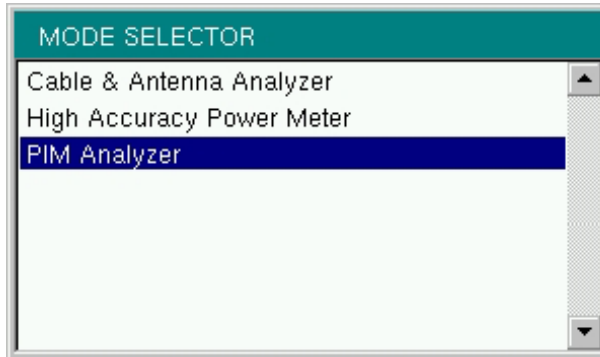

Figure 2-15. Mode Selector Menu
To access the functions under the Mode menu, select the **Shift** key, then the **Mode (9)** key. Use the directional **Arrow** keys to highlight the selection, and press the **Enter** key to select. The list of modes that appears in this menu will vary depending upon the options that are installed and activated in your instrument. Figure 2-15 is an example of the Mode menu. Your instrument may not show the same list.